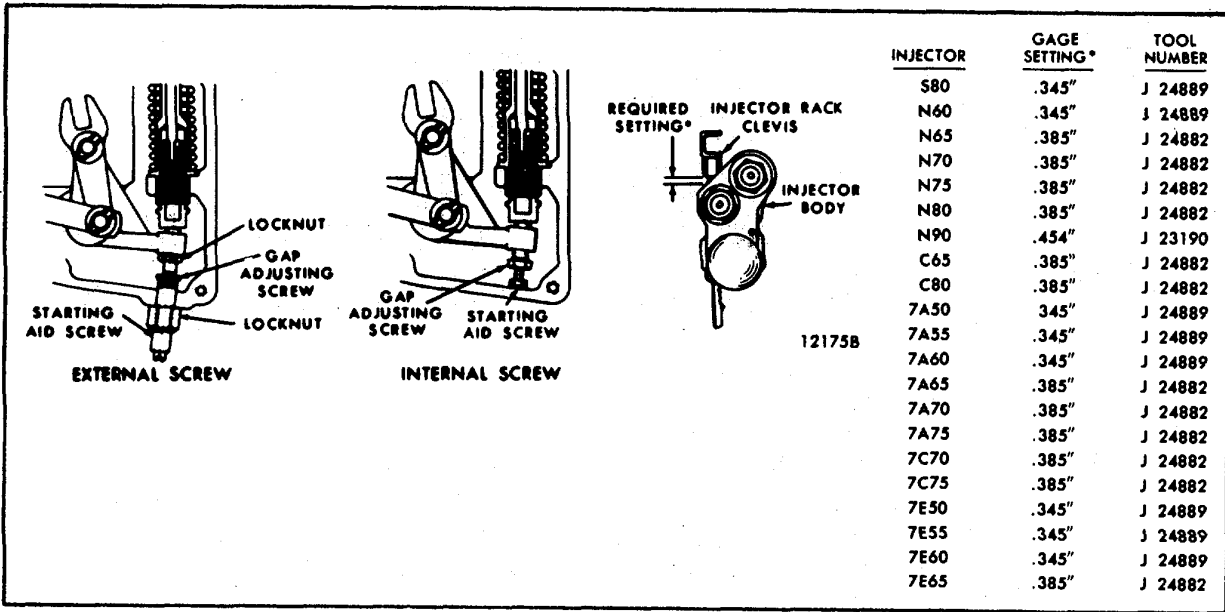

FIG. 7 - Starting Aid Screw Adjustment
- b. Adjust the starting aid screw to obtain the required setting between the shoulder on the injector rack clevis and the injector body (Fig. 7). Select the proper gage and measure the setting at any convenient cylinder. When the starting aid screw is properly adjusted, the gage should have a small clearance of 1/64" in the space along the